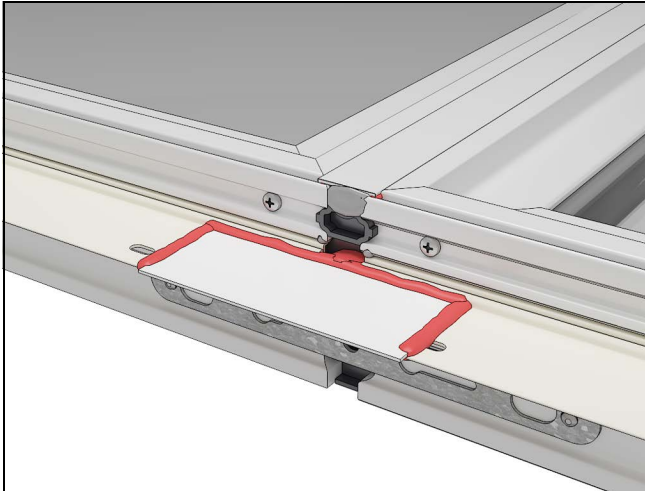

Figure 15
5. Replace the nailing fin on the frame perpendicular to the mull. Leave sill nail fin off at this point. Slide the nailing fin in from the corners all the way until they butt up against each other over the mull plugs. Install the nail fin connector gaskets and seal around the edges of the connector. See Figure 15.